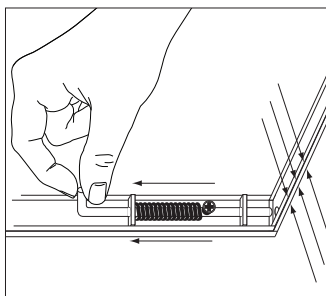
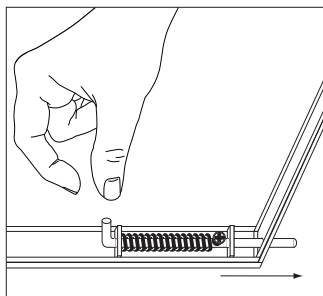

Fig. 3
Fig. 4
Step 3: Square door within frame with tension still applied to Spring Lock assembly. (Fig. 3), With door squared in frame, release Spring Lock (Fig. 4).